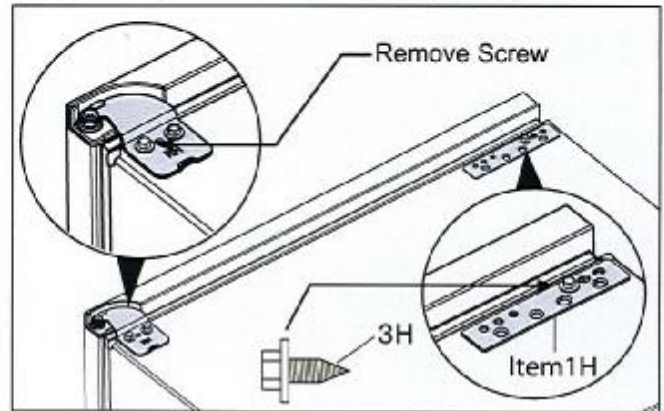

Figure 9.
6. Remove outer screw from top hinge using a 3/8" socket driver or wrench and save for later. Install mounting bracket with one screw mounted to inside hole using a 3/8" socket. (See Figure 9).